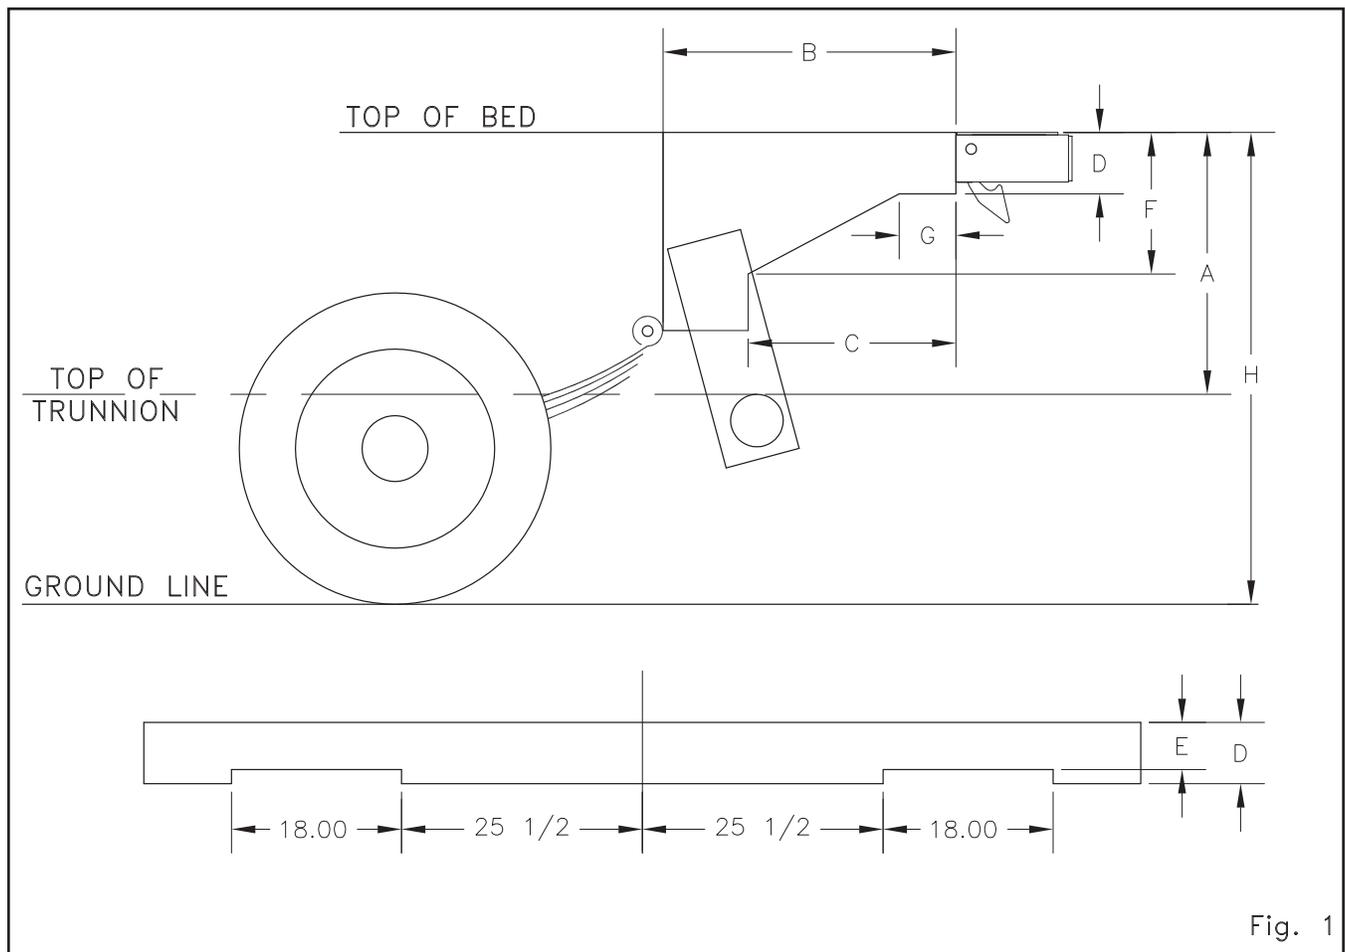

Fig. 1
4. Check "B" dimension for possible interference with spring hanger bracket. See figure 1.
**Step 4** If necessary, notch rear of body as shown in figure 1. Check dimensions of "E" and "B". See chart below.